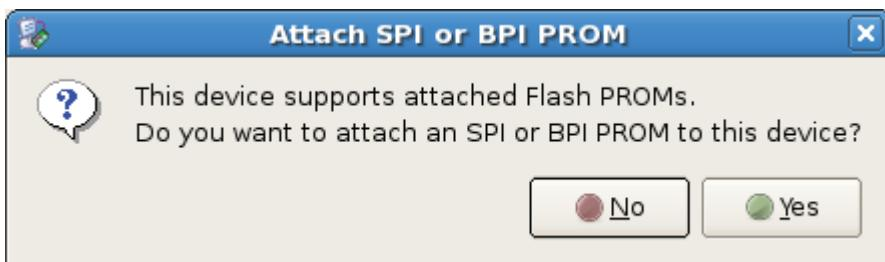

Figure 14: Attach SPI or BPI PROM Dialog Box
7. For SPI or BPI PROM options, click No (Figure 14).